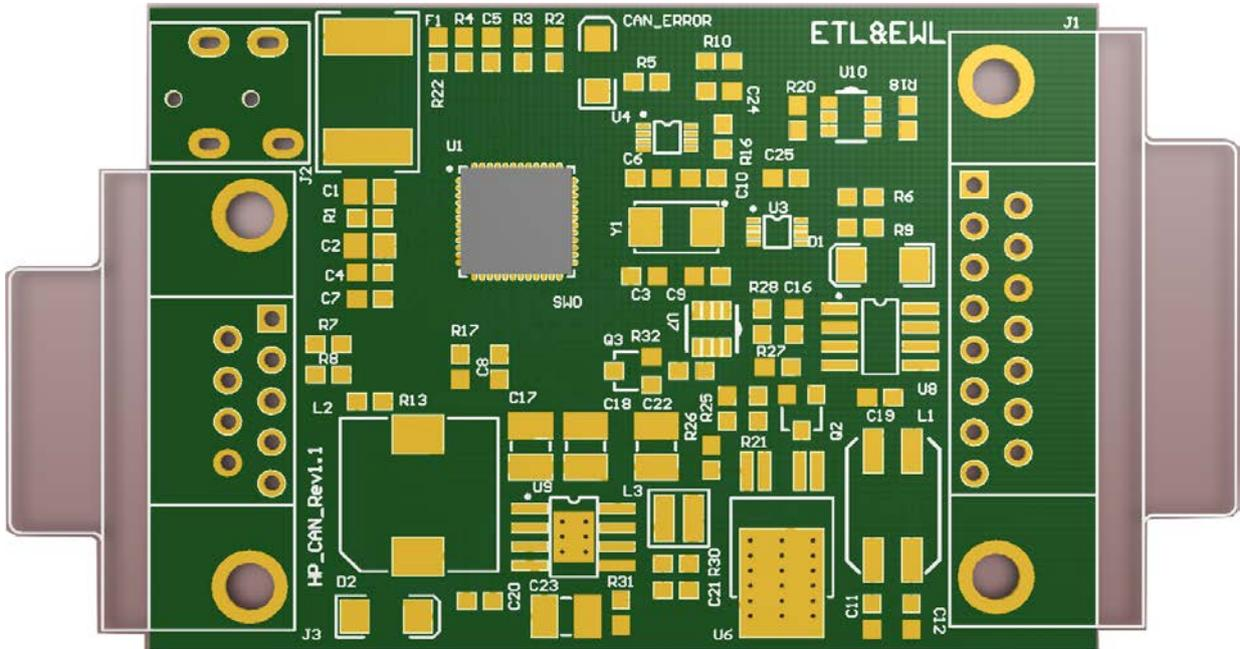

Figure 2. The ETL HP CAN adapter board layout
- Wait until the Windows7 failed to install the driver(Figure 2)